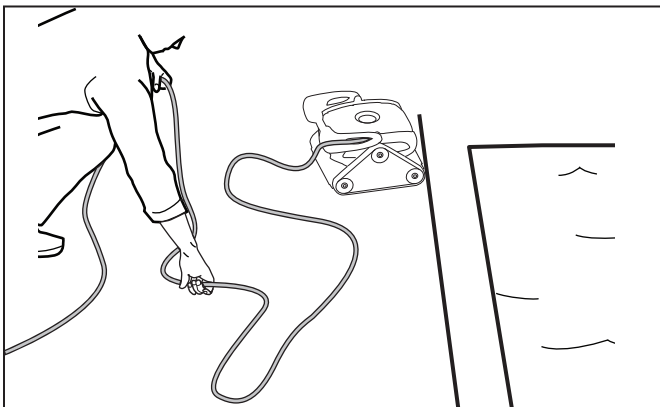

Figure 23. Untangle the Floating cable
2. Remove the cleaner from the pool and untangle all kinks and coils in the floating cable starting at the cleaner head (see Figure 23).